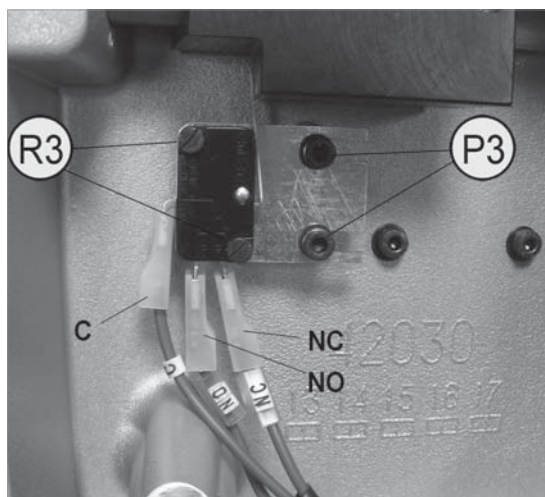

Fig. 67
- 2) Disconnect the 3 connectors (c) (nc) (no) (Fig.67).